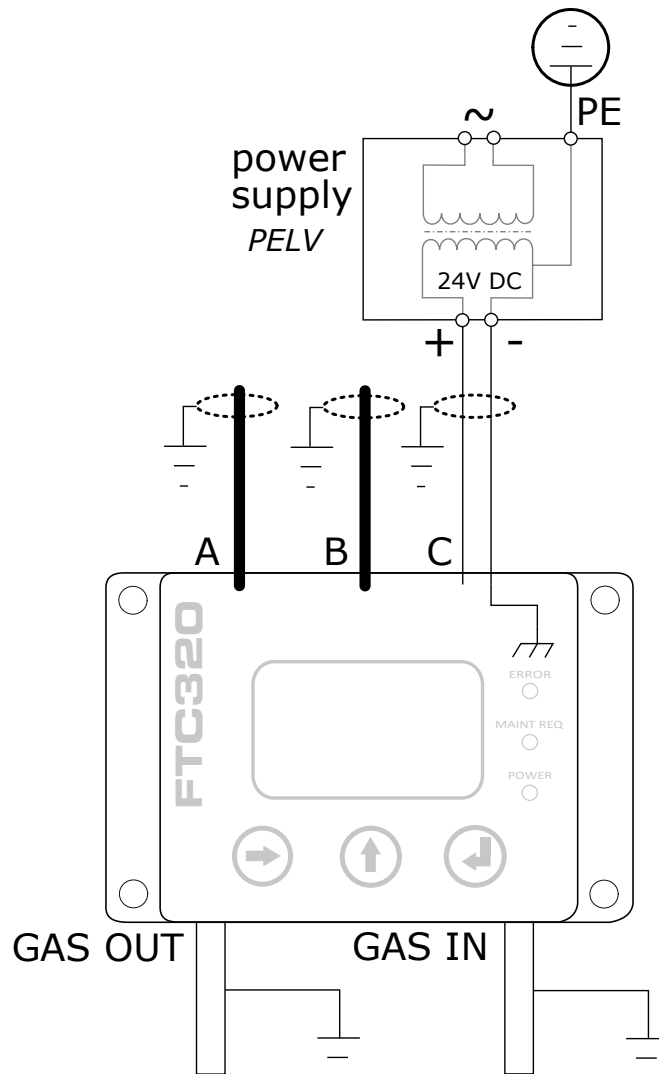

Figure 3.3: Grounding the FTC320
To comply with EN 60204-1 and to ensure your device's function, the device has to be installed such that GND on the low-voltage side of your 24V power supply is connected to protective earth (PE), see Figure 3.3. Some power supplies are internally wired like this already.